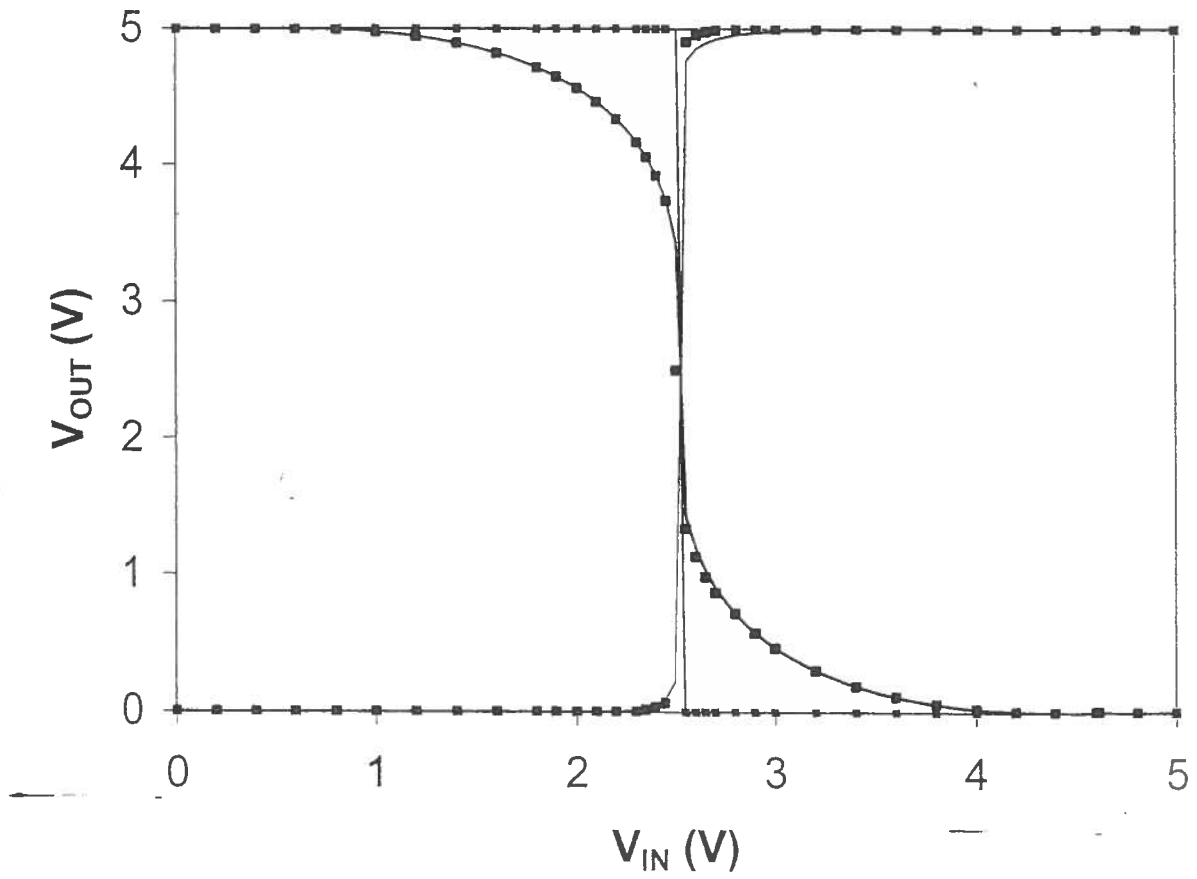

Figure 9.84.
The calculated characteristics are shown in Figure 9.84 as filled squares.
b. The SPICE results are shown in Figure 9.84 as solid curves.